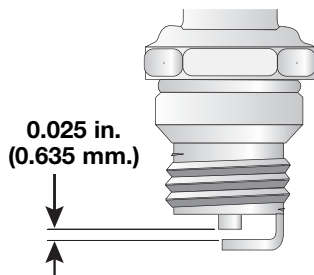

Fig. 35
4. Replace cracked, fouled or dirty spark plug. Set the air gap at 0.025 in. (0.635 mm.) using a feeler gauge (Fig. 35).